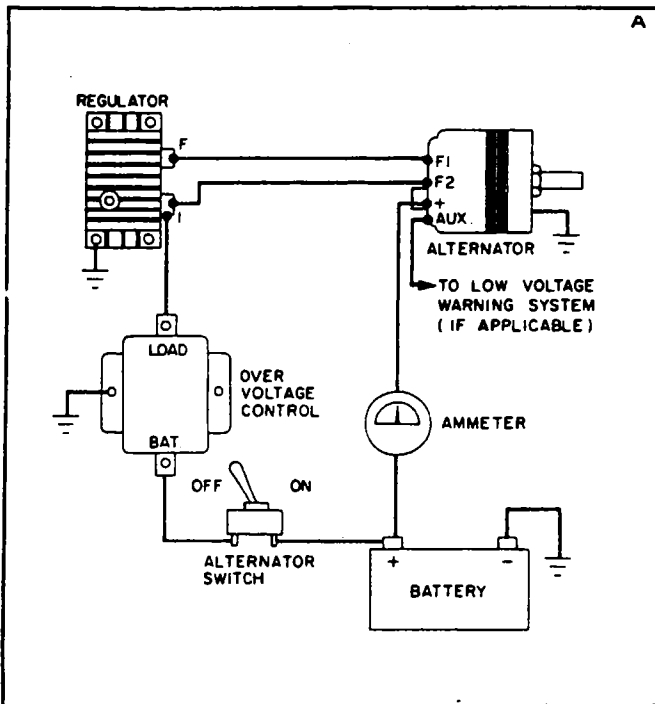

Figure 11-14. Application of Overvoltage Control
c. The relay contacts will remain open until the alternator switch is turned off. Figure 11-14 illustrates the overvoltage control connected in a typical Prestolite insulated field alternator.